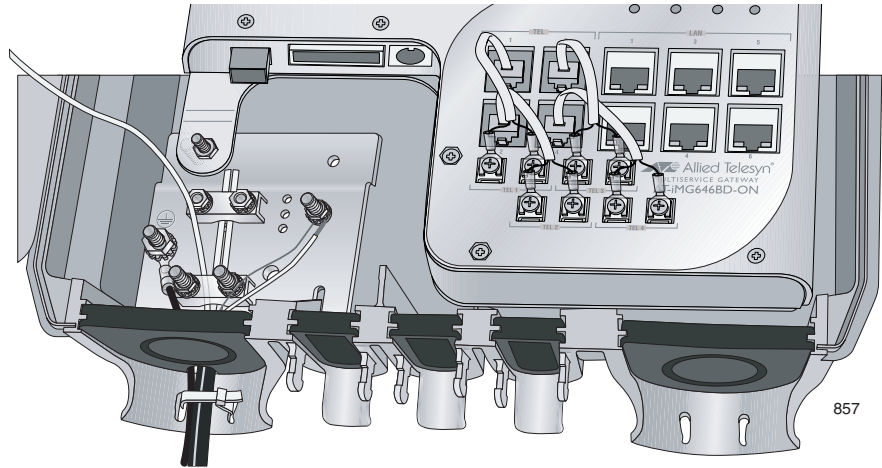

Figure 32. Securing the Gateway to the Mounting Post
5. Secure the gateway to the mounting post with the Kepnut from the accessory kit, as shown in Figure 32, hand tightening the lock nut until it is snug.